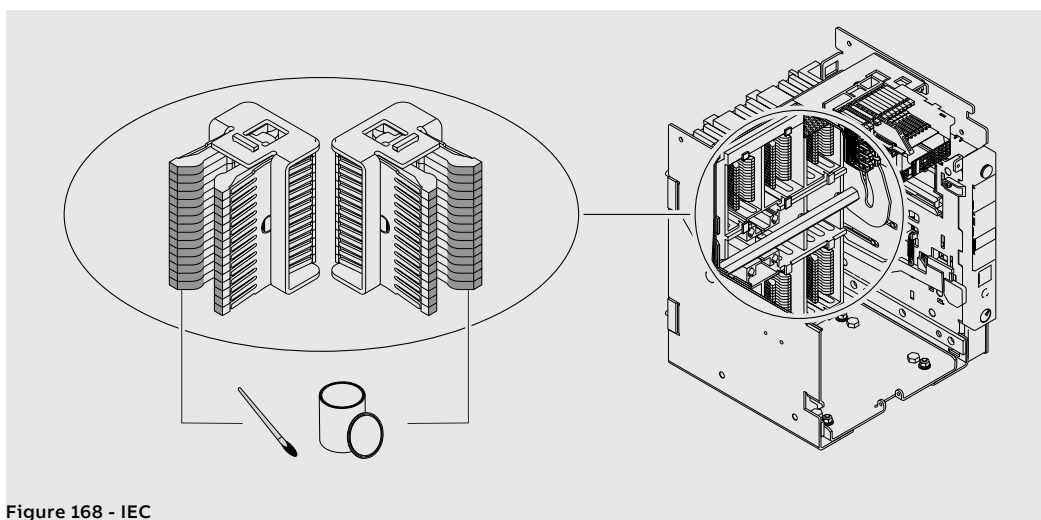
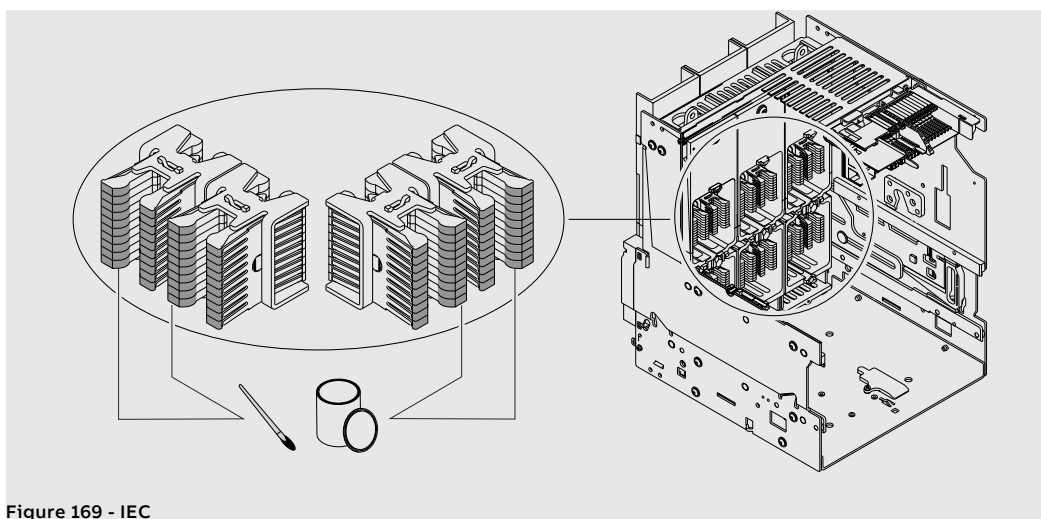

Figure 168 - IEC
Figure 169 - IEC
1. Clean the jaw-type isolating contacts in the indicated points. Use a laminate thinner such as Chemma 18 or equivalent if there is a heavy coating of dirt (Figure 168 - IEC for E1.2; Figure 169 - IEC for E2.2, E4.2 and E6.2).